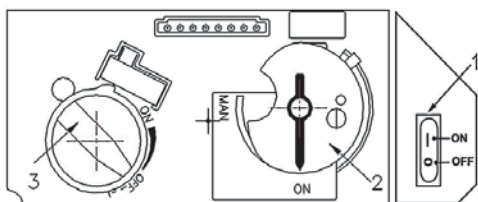
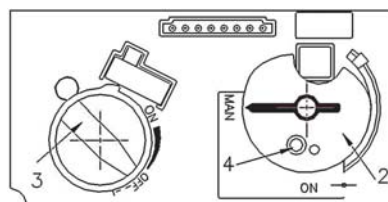
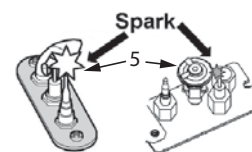

Fig 1
Fig 2
Fig 3
2. SET ON/OFF SWITCH (1) TO "OFF" POSITION.
- Wait five (5) minutes to clear out any gas, then smell for gas, including near the floor. If you smell gas, STOP! Follow "B" in the safety information above on this label. If you don't smell gas, go to the next step.
3. **AUTOMATIC IGNITION (fig. 1):** Locate the pilot (fig. 3.) inside of firebox at Left Hand side.
- ON/OFF switch (1) in ON position, MAN-knob (2) in ON position; set Flame Adjustment knob (3) to lowest setting (U);
- When the pilot is lit, the Flame Adjustment knob (3) will automatically rotate to the highest setting.
4. **MANUAL IGNITION (fig. 2):** With the window off, locate the pilot (fig. 3) inside of firebox at Left Hand side;
- ON/OFF switch (1) in ON position, MAN-knob (2) in MAN position;
- Set Flame Adjustment knob (3) to the lowest setting (U);
- Push down the metallic core (4) with a pen or similar instrument; this will establish the pilot gas flow; **Light gas at the pilot (5) with a match;**
- Continue holding down metal core (4) for about 10 seconds; after release, pilot should remain lit;
- If the pilot will not stay lit after several tries, turn the gas control knob (3) to "OFF" (U) and call your local service technician or gas supplier.